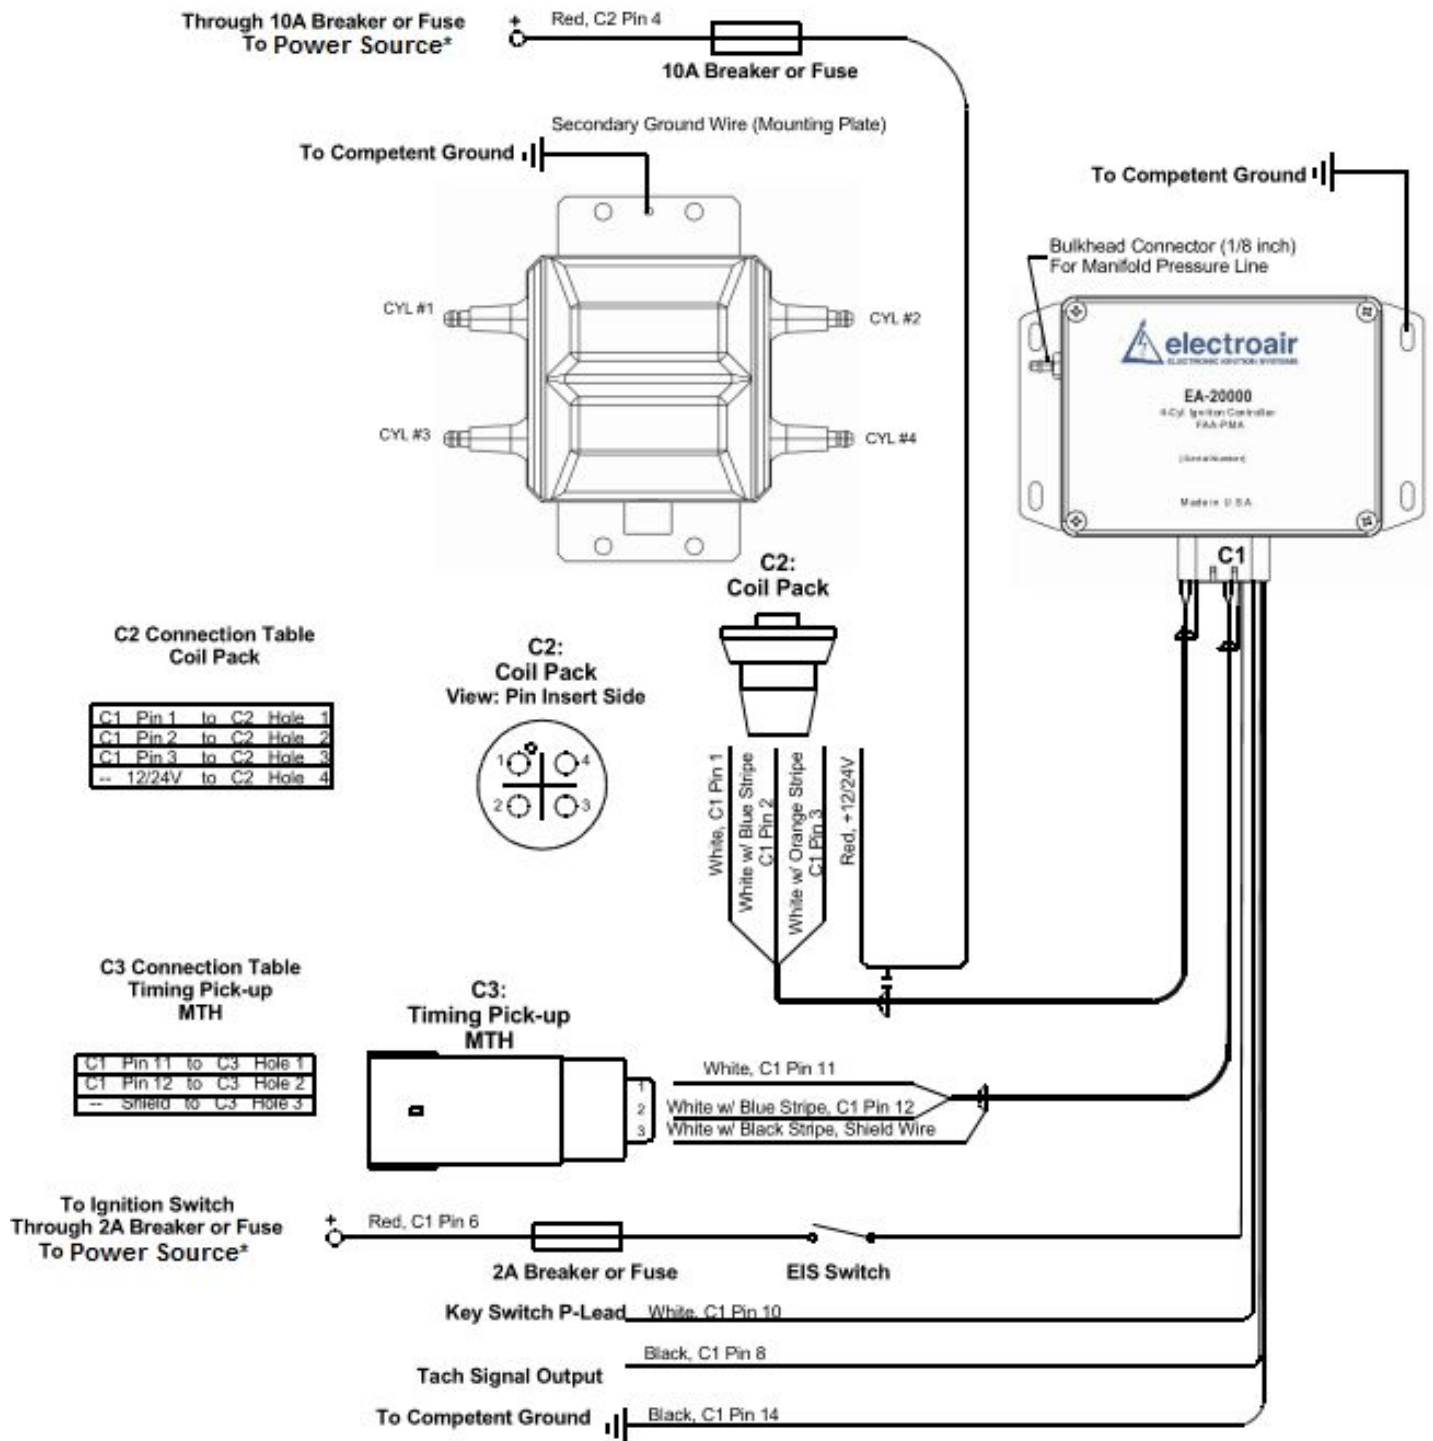

Figure 40: Wiring Diagram for EIS-41000T, EIS-41000TIC, EIS-41000TLH, & EIS-41000TLHC
- k. Figure 40 shows the Wiring Diagram for the EIS-41000T, EIS-41000TIC, EIS-41000TLH, & EIS-41000TLHIC. Both EIS kits for a Dual EIS installation will have similar wiring. The only difference between each installed EIS kit will be what essential bus or power source the EIS is connected too. **Note:** Single EIS installation means one EIS installed on an engine. Dual EIS installation means two EISs installed on an engine.